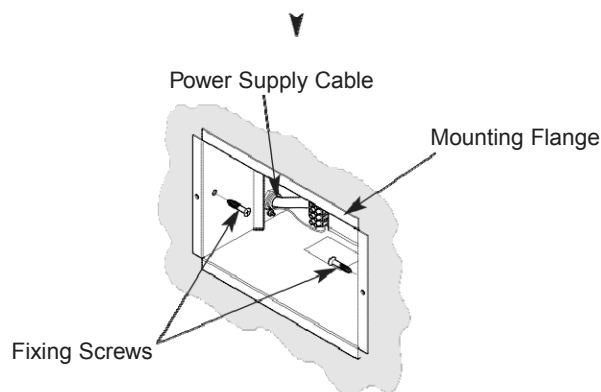

Fig. 7
3. Ensure that the unit is square and true with the outside wall face. If firmer fixings are required, secure the unit in place with the two fixing screws provided (Fig. 7).